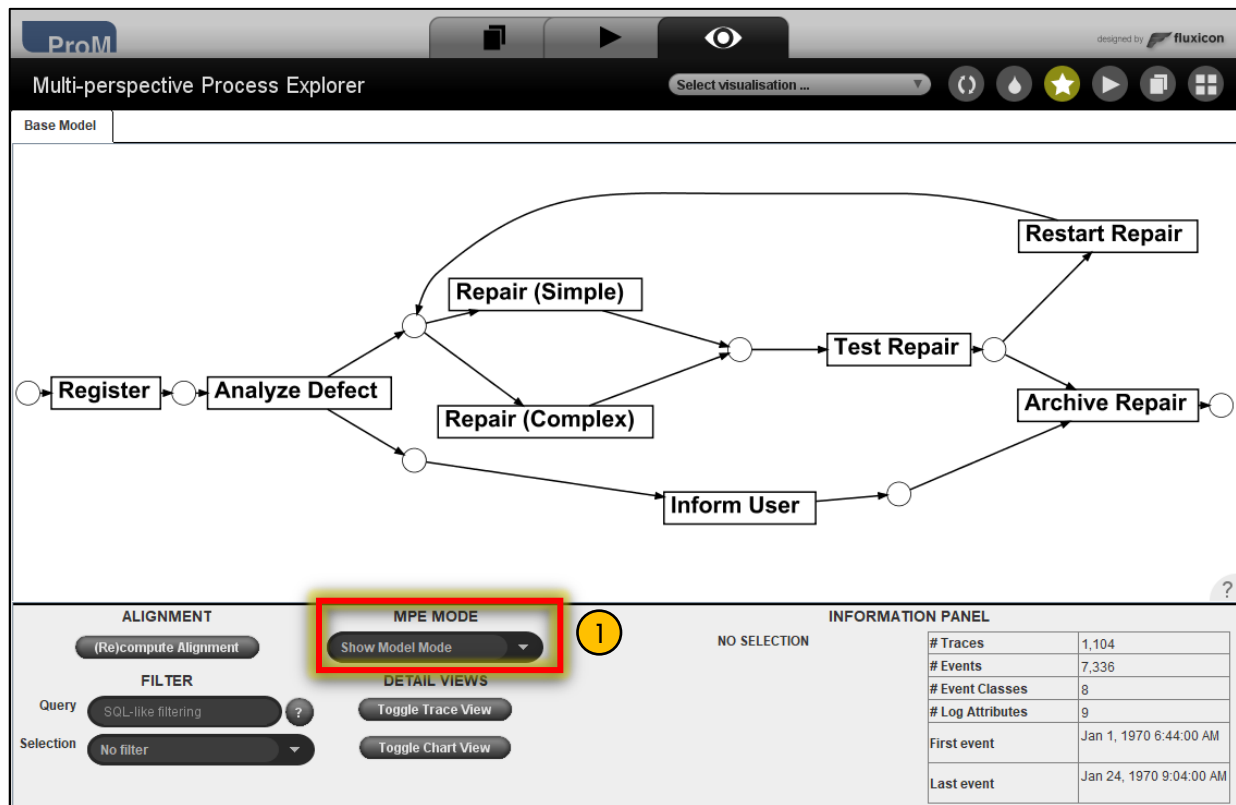
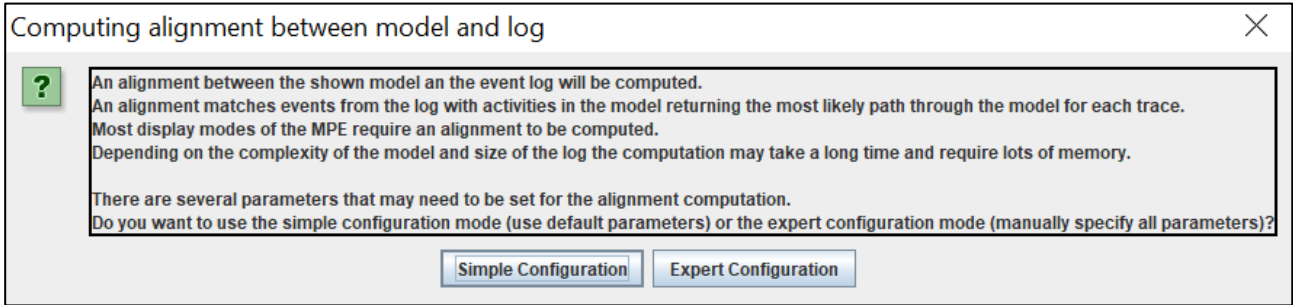

Figure 11. MPE Model Mode
Figure 12. Configuration for performance mode
The plug-in *Multi-perspective Process Explorer* takes an event log and a model as input. We used the model already used above, along with event log *repairExample2.xes*, and limited the functionalities to illustrate branching probabilities. You obtain Figure 11.
The routing probabilities can be seen by changing the MPE MODE to “*Show Performance Mode*” from Area ① in Figure 11. Most of the modes require to compute alignments, including the performance mode. This plug-in has a simplified version of computing alignments, which tries to guess the activity–event mapping with the initial and final marking. It uses the cost function that assigns 3 to log moves and 2 to model moves. Figure 12 will be shown and click Simple Configuration.